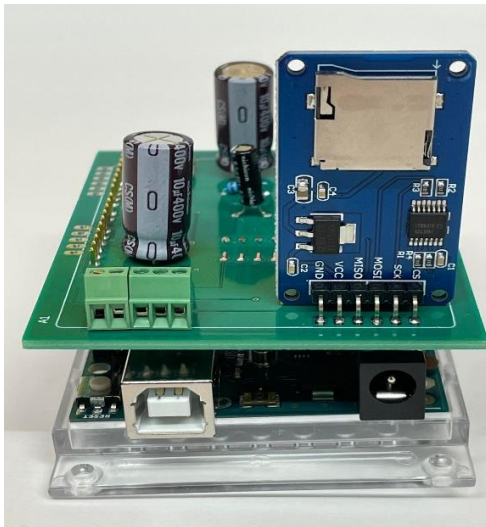

Fig. 11. Notice that the outlets face outward to connect GPS more easily.
11. Solder terminal blocks on the back the PCB to connect GPS more easily as in Fig. 11.